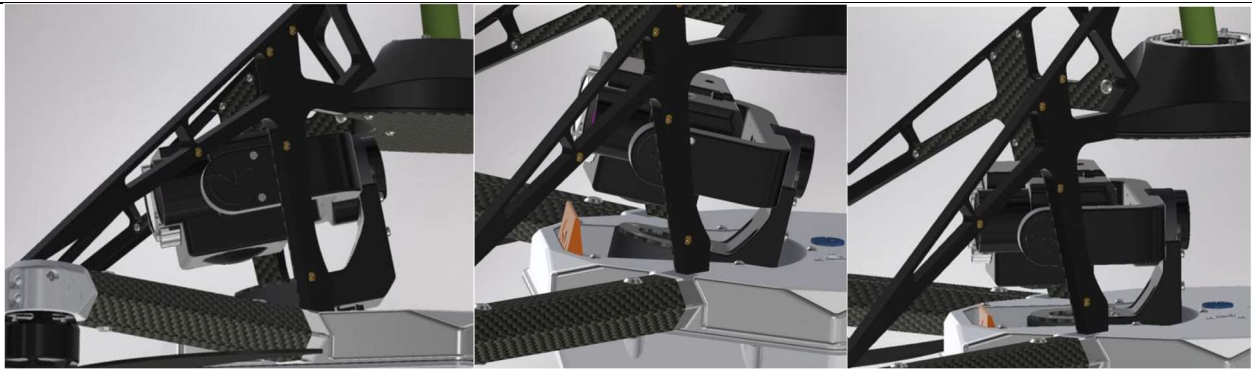

Figure 7. Payload Insertion Reference Images
- b. Start by placing the payload at a low angle in the payload bay while tilting the payload slightly forward, and then aligning the tabs on the rear portion of the payload towards the Payload Tab Slots that are shown above. A sequence of images is shown in Figure 7.*
- c. Rotate the front of the payload down to contact the push-pin electrical connections in the payload bay and apply pressure until the payload attachment lever latches as shown in Figure 7. The correct exposure for the payload attachment lever is shown in Figure 8. The payload attachment levers are red or orange in color. The payload must be secure both at the rear tabs and in the front attachment lever to be functional and safe to operate.*